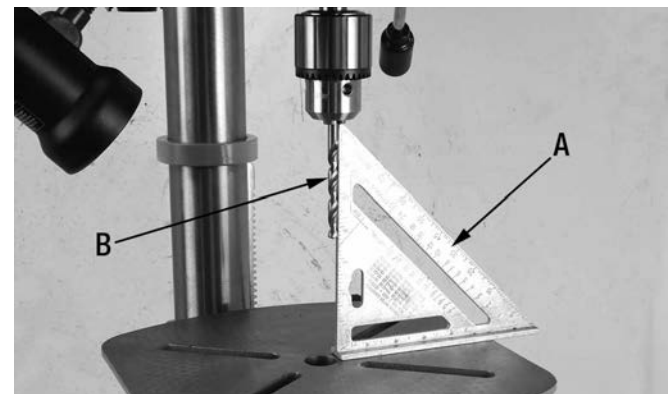

FIGURE 16
- 2) Position a square (A) Fig.16 on the table, and up against the drill bit (B) as shown in Fig.16.